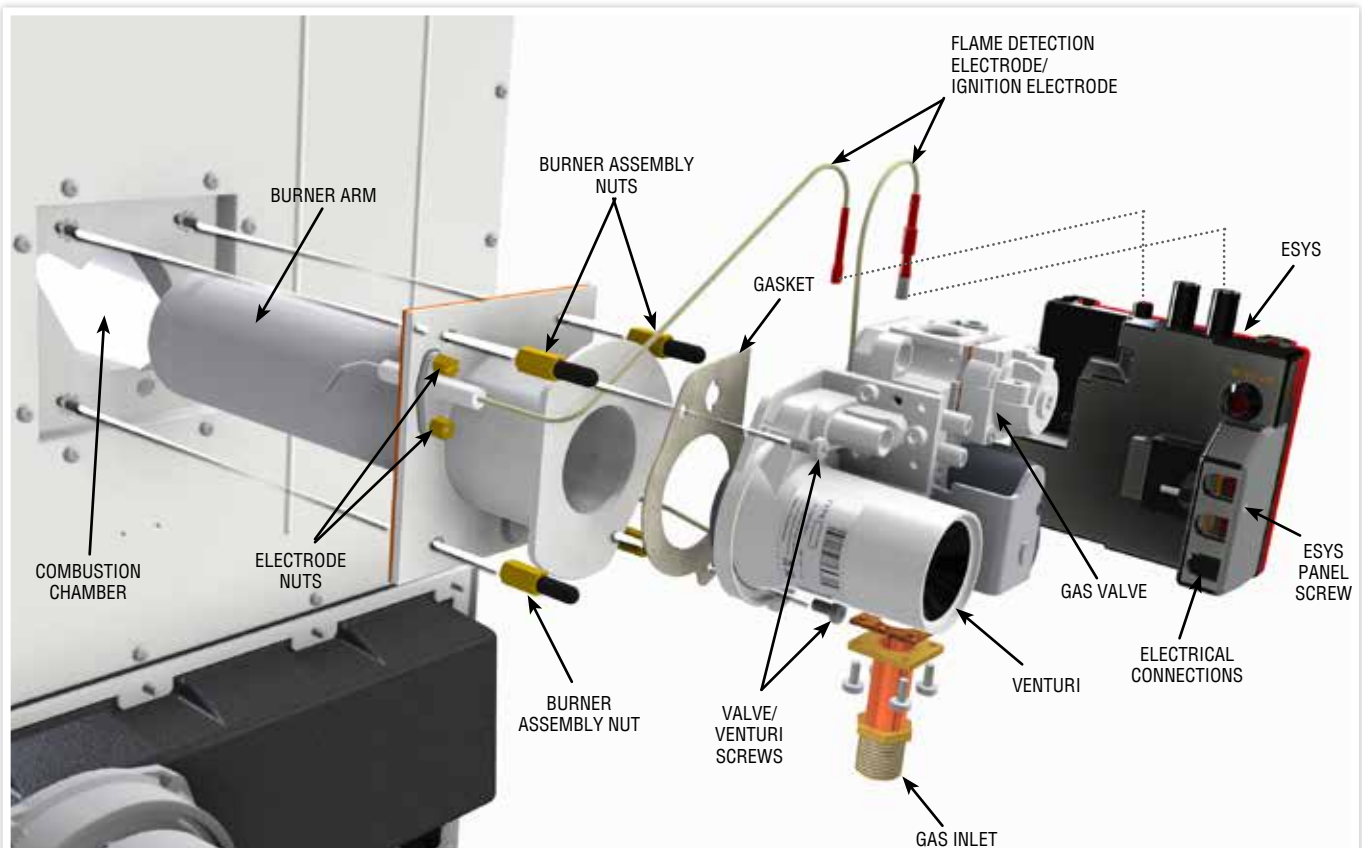

FIGURE 28. MAIN BURNER ASSEMBLY
- 17.9.2 Unplug the connections from the top of the control and remove the ignition spark detection wires. See Figure 28.
- 17.13.2 Unplug the lead from the ignition control. See Figure 28.